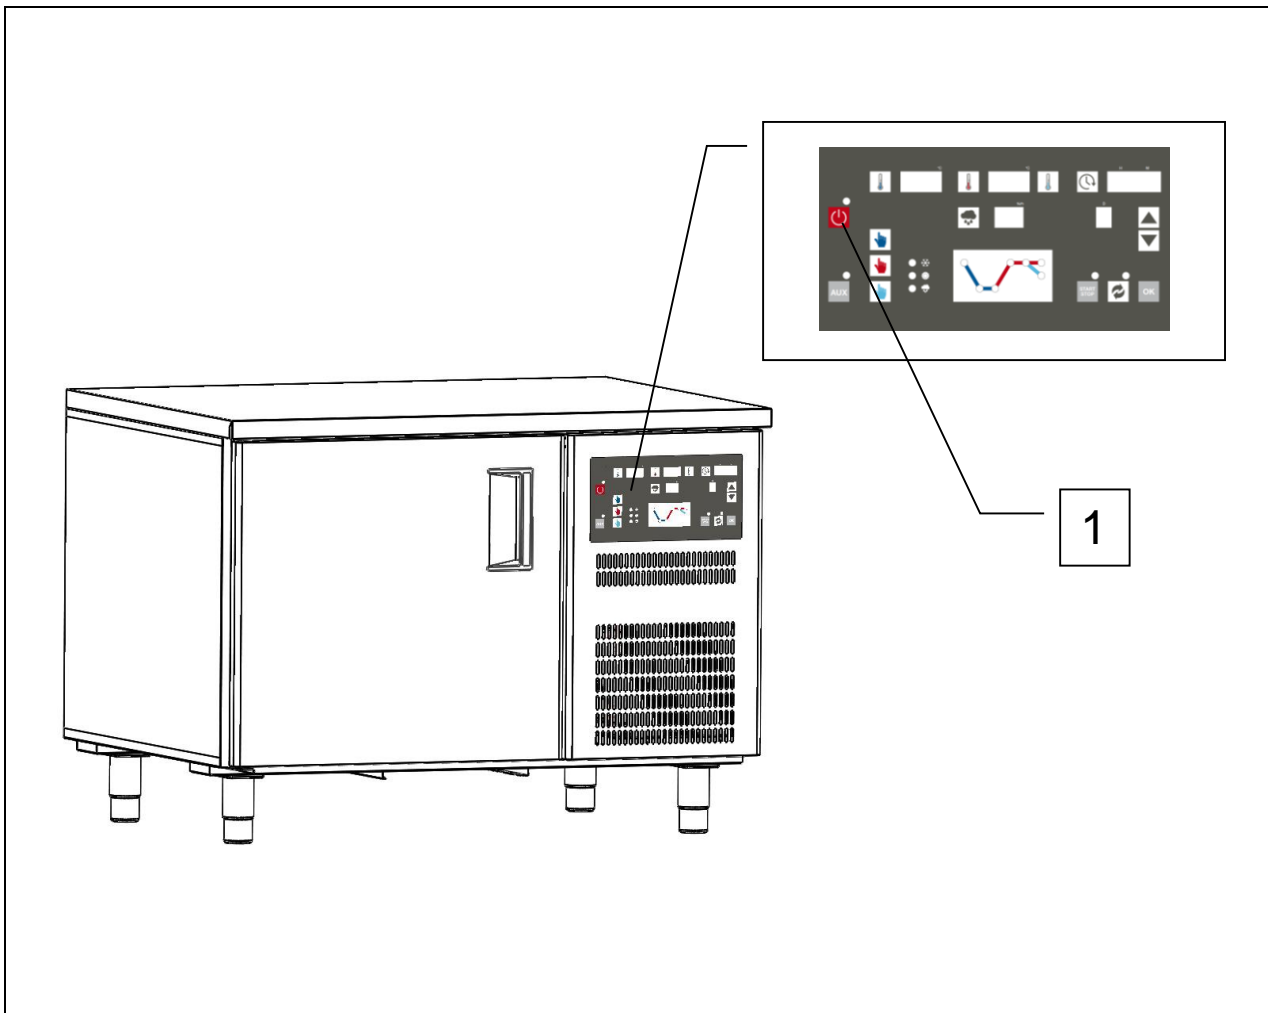

Fig. 6
The appliance as a whole is controlled by a digital thermostat. The stop function is represented by the button  (ref. 1 fig. 6). Whatever the mode of operation of the appliance, press the button  to put the electronic card (PCB) to the OFF status.